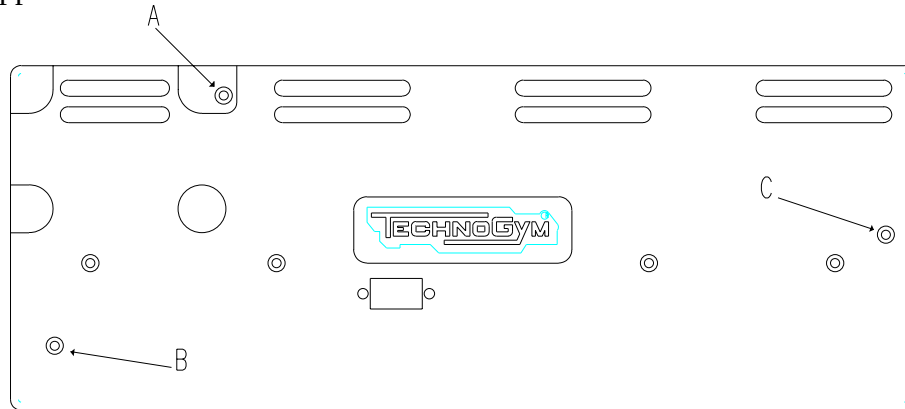

Figure 2.3-2
4. Remove the three screws TSPIC M3 x 5 from the back of the control panel, which must be replaced with the three screws TSPIC M3 x 14 (code 0Z770) supplied in the kit (see Figure 2.3-2).
2. Disassemble the flange code 0V2076 (see Figure 2.3-2) from the back of the panel.
4. Remove the screw TSPIC M3 x 5 (see Figure 2.3-2 position A) from the back of the control panel, which must be replaced with the screw TSPIC M3 x 14 (code 0Z770) supplied in the modification kit.